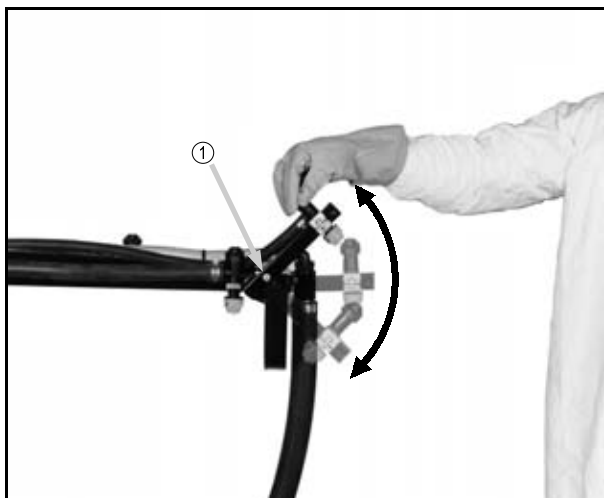

FIG 5.73
ADJUSTING FENCE ROW NOZZLE ANGLE – To adjust the fence row nozzle angle, remove the locking bolt and nut (figure 5.73, item 1) and pivot to desired height. Re-install bolt and nut and resume operation.